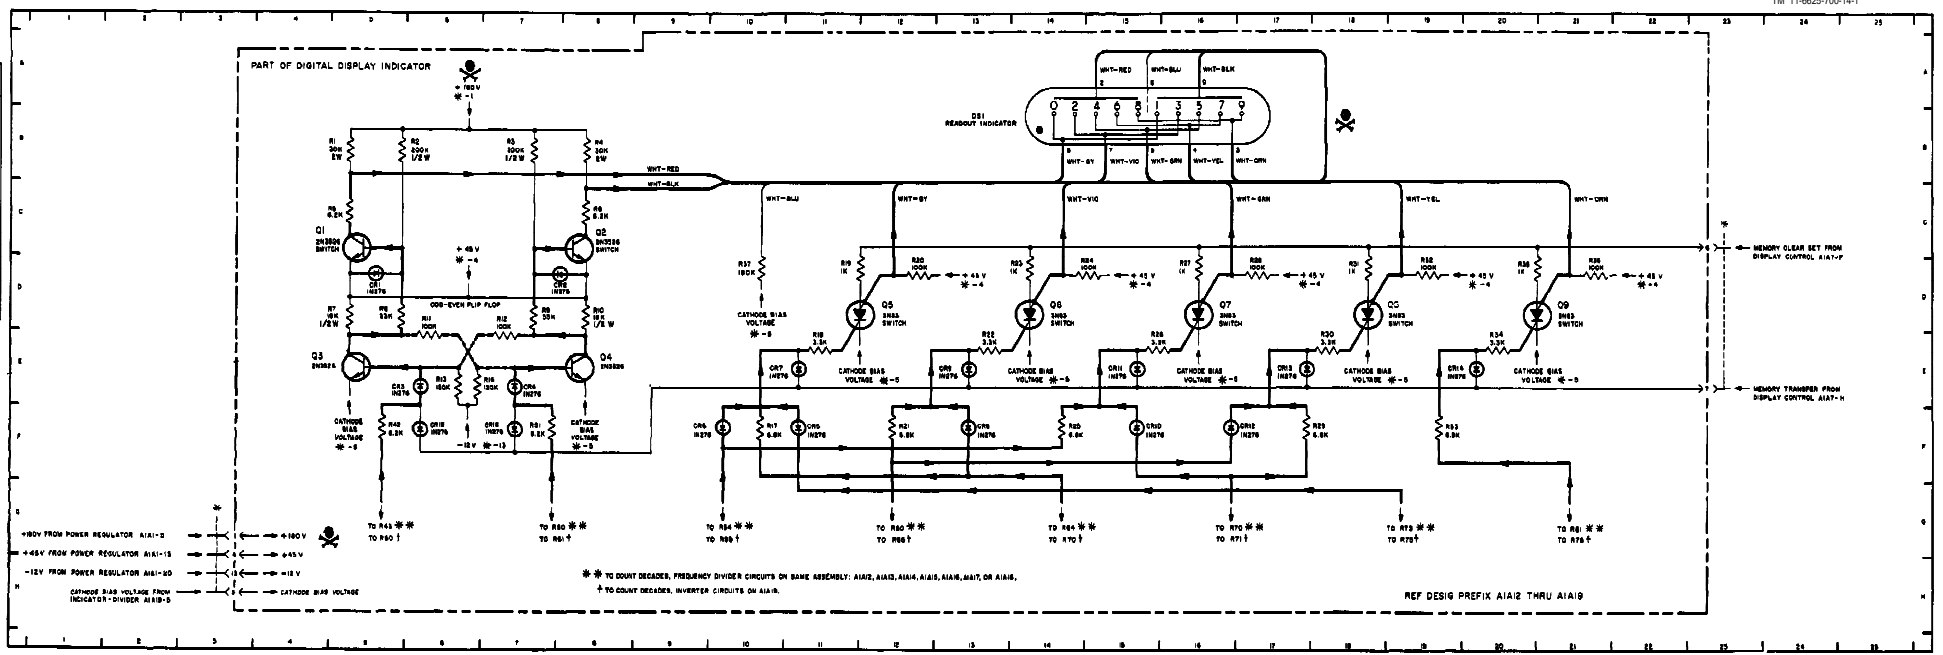

Figure 5-77. Readout, Digital Display Circuits, Schematic Diagram
- Readout portion of assemblies A1A12 through A1A19 are identical and are represented by figure 5-77.